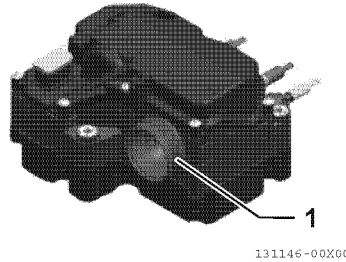

Fig.25-46
- 8 - Clean the main filter cover mounting threads (1, Fig.25-46) with freshwater before installing a new filter element.